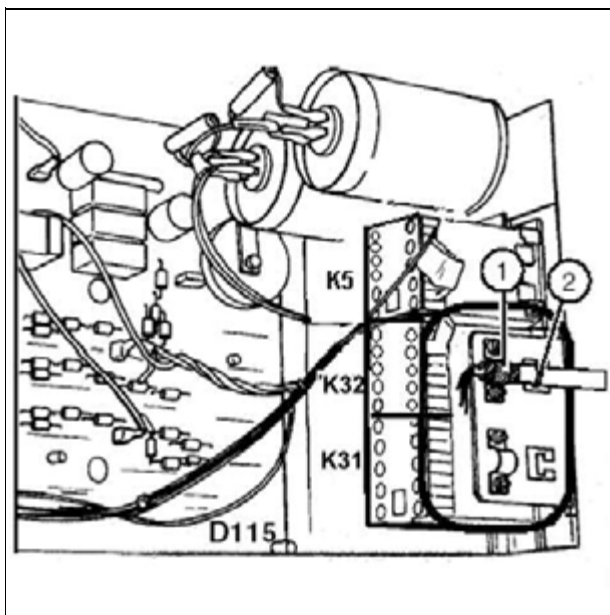

Fig. 17: POLYDOROS SX 65/80
- Clamp the shielding braid of the cable on the right side of the starter under a clamp (1/Fig. 17 / p. 30) (tube 1 above, tube 2 below).
- Strain-relieve the cables with cable ties (2/Fig. 17 / p. 30).